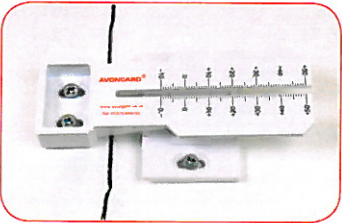

figure 2
2. Align the top plate on the other side of the crack at 90° to the bottom plate and fix with screws and rawlplugs (size 6) and adhesive (figure 2).